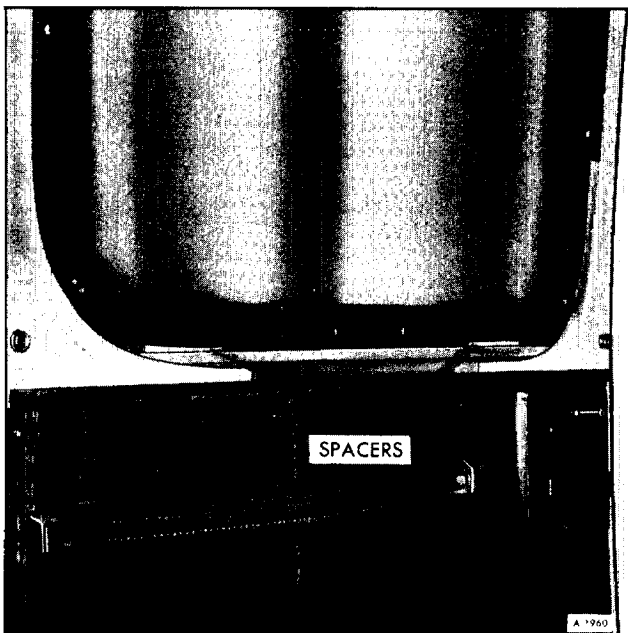

Figure 6—Sash Spacers
2. Install sash assembly. Position spacers as shown in Figure 6.
NOTE: Late model vehicles are not equipped with spacers (figure 6). A 3/16 inch gap should be maintained between sill and sash.